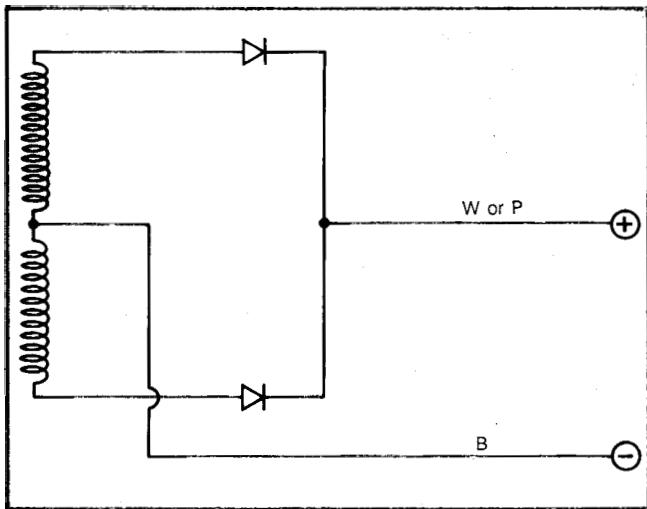

Figure 150
- If the diode assembly has been disconnected it should be reinstalled at this time. On some units the assembly is soldered in place, others use connectors. There are three wires connected to each diode assembly, two that supply AC power to the diodes and one positive output wire. The negative output wire comes directly from the center tap of the winding that supplies power for the DC circuit. The positive output wire is white on T1200 through T2500 and pink on the T3000. The remaining two wires are connected to the anode (positive) ends of the diodes. See Figure 150.